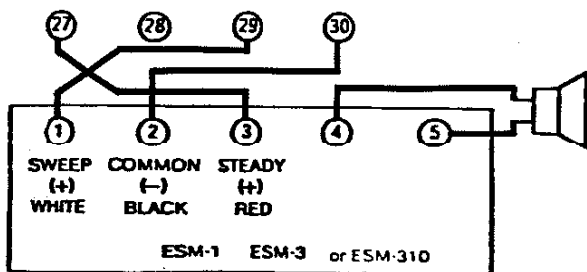
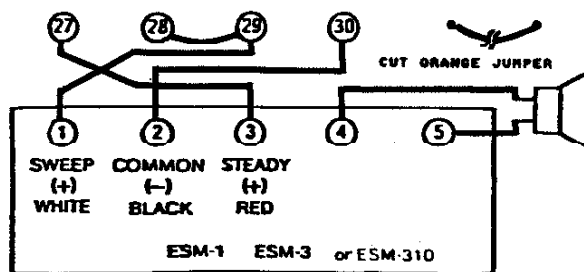

Fig. 4-6a.
Fig. 4-6b.
For an untimed steady fire signal, connect the siren driver as shown in Fig. 4-6a, or for a timed fire siren (Fig. 4-6b), (1) Cut the jumper to the left of control-center Terminals 27 and 28. (2) Add a jumper connecting Terminals 28 and 29.